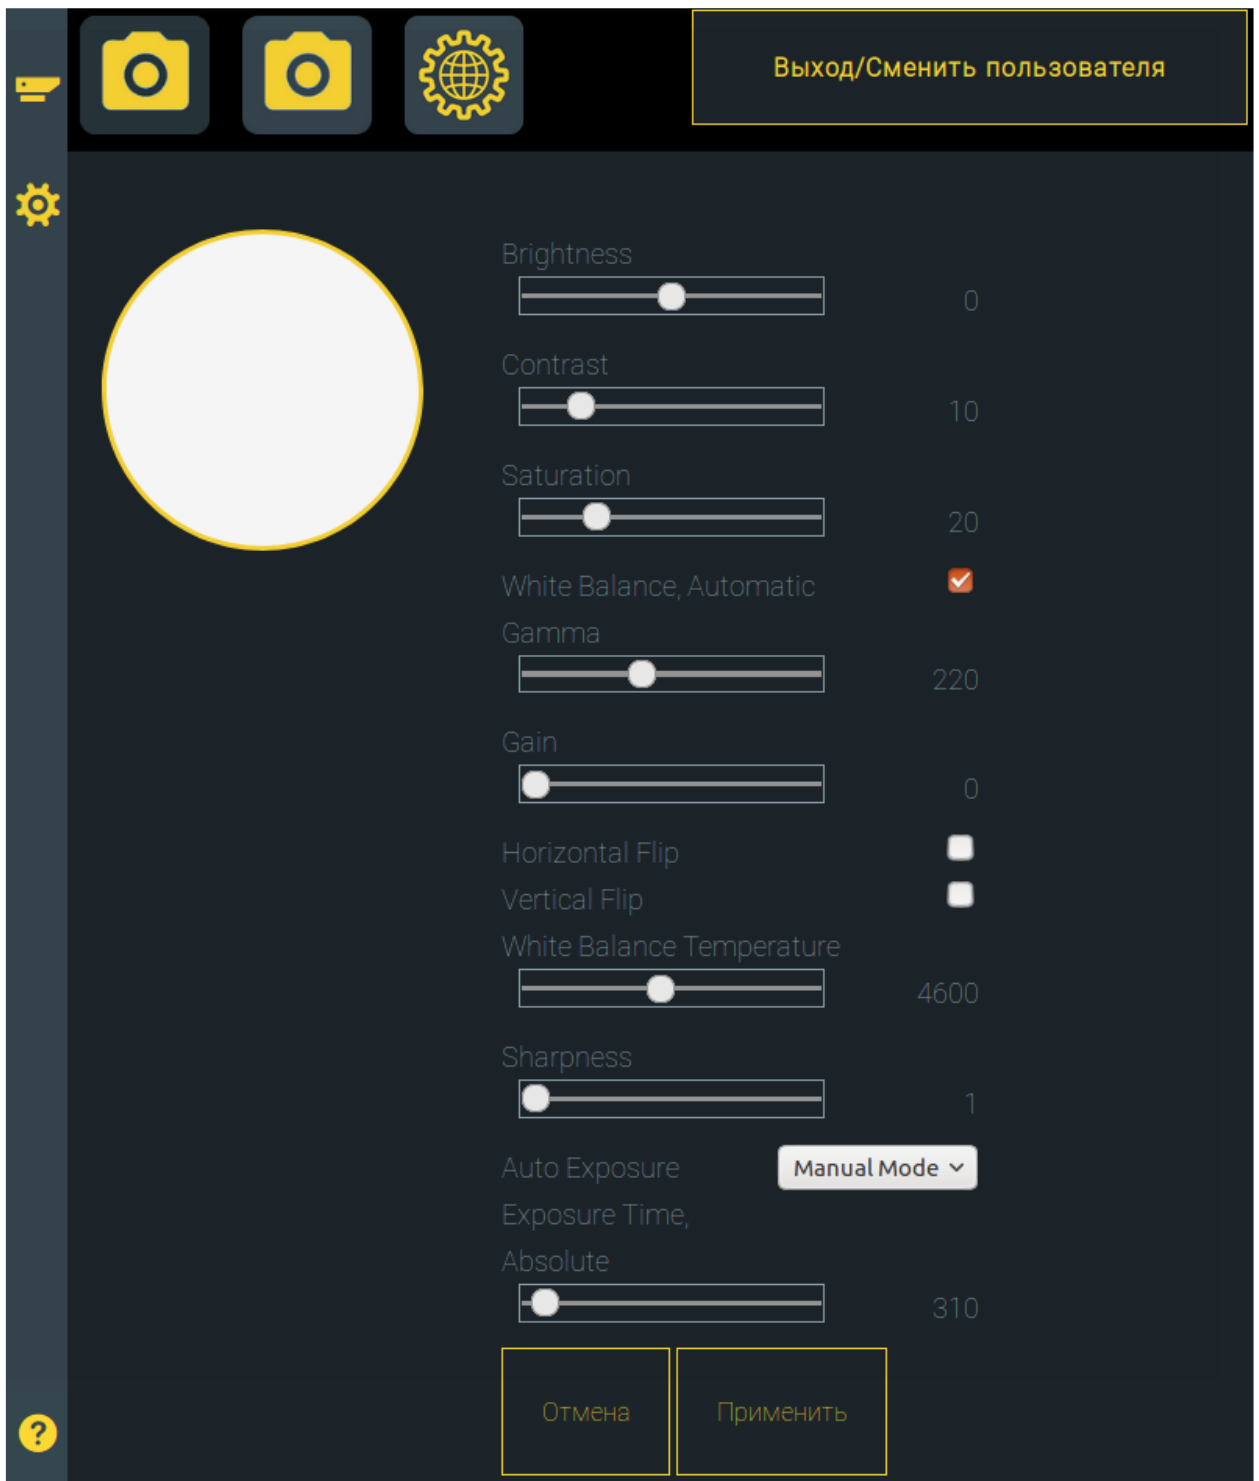

Figure 5.8 Image parameters settings screen of VisorJet 720
3. Go to the section for setting image parameters by clicking on one of the icons in the upper left corner (Figure 5.8). Since the VisorJet 720 has two digital camera sensors, there are also two windows for setting image parameters.